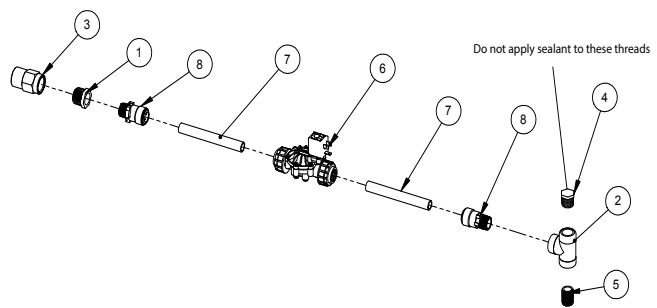

Figure 4 Drain Fitting Assembly
1. Install ½” NPT 1” long nipple (Item 5 in Figure 4 above) into side port of one end cap (not shown).